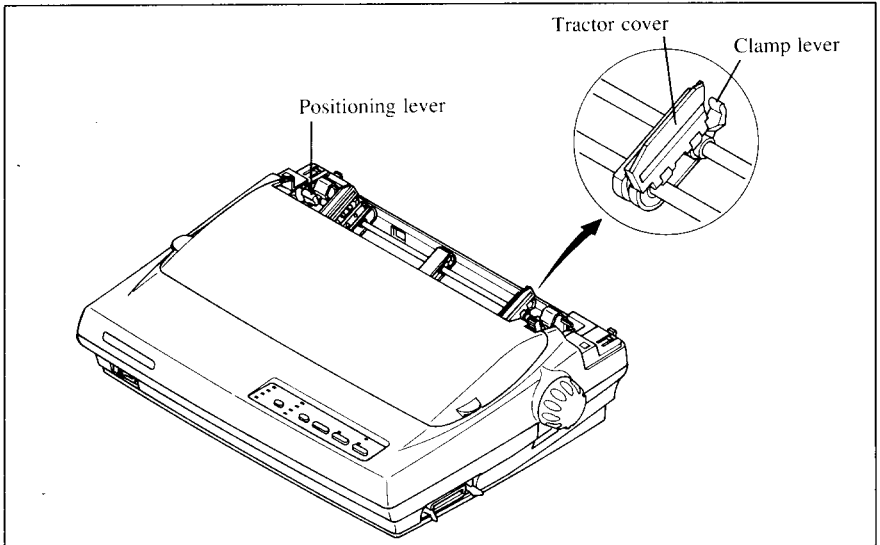

Figure 1-12. Move the tractor units downwards for loading the paper from the rear
6. Move the tractor units downwards by gripping the positioning levers on both side of the tractor unit as shown in Figure 1-12.